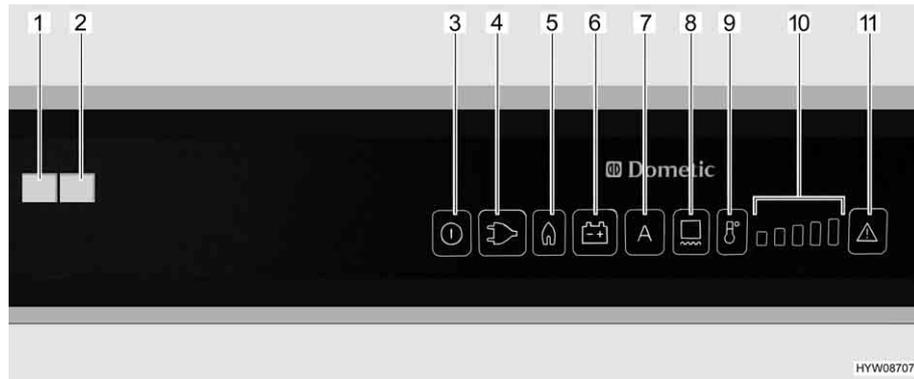

Fig. 228 Operating controls for the refrigerator (Dometic RMD)
If the "AES" operating mode is set, the 230 V supply is **not** connected and the vehicle engine is **switched off**, the AES selects the gas supply. When selecting gas operation the ignition fuse is opened automatically so gas can get into the burner. At the same time the electronic ignition is activated. If the gas flame is extinguished, e.g. by blast of wind, the ignition is activated immediately and re-ignites the gas. If there is a fault in gas operation, the illuminated buttons "Gas" (Fig. 228,5) and "Fault" (Fig. 228,11) flash. The "Fault" indicator lamp (Fig. 228,1) lights up and an alarm sounds for 20 seconds.
When turned on the first time the refrigerator automatically selects the middle thermostat position. This position can be adjusted manually using the temperature range selection button (Fig. 228,9). The indicator lamps (Fig. 228,10) show the selected thermostat position. The refrigerating temperature for all three types of power is set with the temperature range selection button. It takes a few hours till the refrigerator reaches its normal operating temperature. When changing over the operating mode the thermostat setting will be maintained. The refrigerating temperature is retained regardless of the type of power being used.
- Switch on the frame heater for a 2 hour period: Push button (Fig. 228,8) once. One bar is lit up on the temperature range display (Fig. 228,10).
- Switch on the frame heater for a 5 hour period: Push button (Fig. 228,8) twice. Two bars are lit up on the temperature range display (Fig. 228,10).
- Setting frame heater for continuous operation: Push button (Fig. 228,8) three times. Three bars are lit up on the temperature range display (Fig. 228,10).
The temperature range display (Fig. 228,10) shows the operating time of the frame heater for several seconds.
High external temperatures and high humidity can cause drops of water to form on the metal frame of the freezer compartment. This is why the refrigerator is equipped with a frame heater for the freezer compartment. If the temperature and humidity are high, switch on the frame heater by pressing the button (Fig. 228,8). This prevents corrosion. If the frame heater is switched on, the illuminated button (Fig. 228,8) is lit.
- Press and hold the On/Off button (Fig. 228,3) for about 2 seconds. The refrigerator switches on and the previously set power type or "AES" is displayed.
- Use the temperature range selection button (Fig. 228,9) to set the refrigerating temperature. The indicator lamps (Fig. 228,10) show the selected thermostat position.
- Press and hold the On/Off button (Fig. 228,3) for about 2 seconds. The refrigerator switches off and no displays are lit.